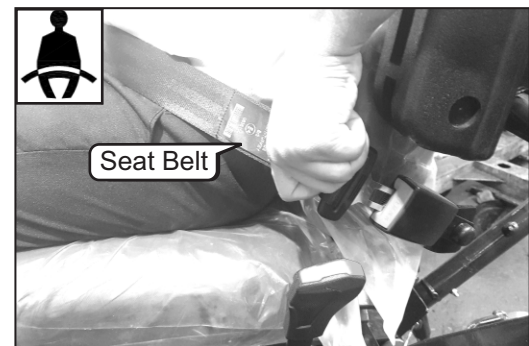

Fig. 4.26b
- Check the seat belt for damage. A damaged seat belt must be replaced, Fig. 4.26b.